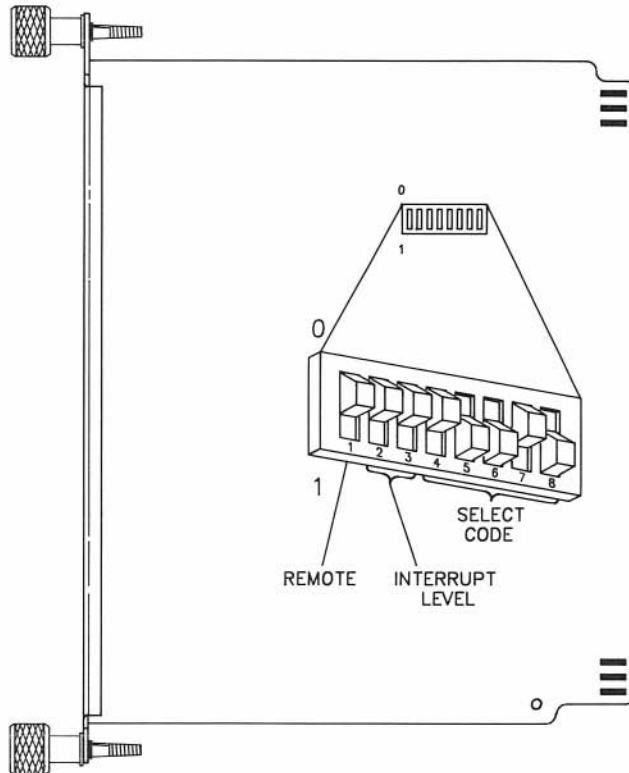

Figure 5-16. HP 98642A 4-Channel Multiplexer Interface switches.
- a. Find the group of eight switches on the interface by referring to Figure 5-16. Switches 4 thru 8 in this group determine the select code.
- a. Find the group of eight switches on the interface by referring to Figure 5-16. Switches 2 and 3 in this group determine the interrupt level.
- a. Find the group of eight switches on the interface by referring to Figure 5-16. Switch 1 in this group is the Remote switch.
- If you are connecting a terminal to port 1 of this interface and want the terminal on port 1 to be the system console, set this switch to **1** (remote), which is *opposite* that shown in Figure 5-16. Be aware that the boot ROM will not recognize this terminal as the system console, even though HP-UX will. No boot ROM messages will appear on the associated terminal; therefore, do not use the HP 98642A as a system console until after HP-UX is installed.
- If you are connecting a terminal to port 1 of this interface but **do not** want the terminal on port 1 to be the system console, set this switch to **0** (local) as shown in Figure 5-16.